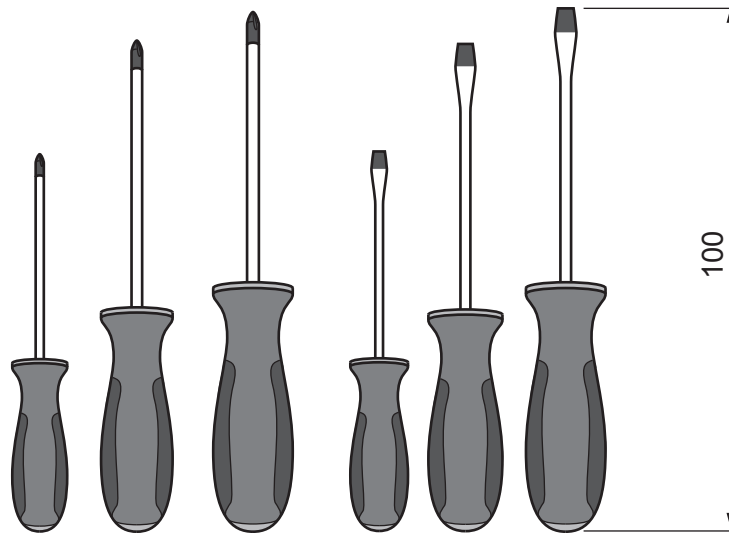

Fig. 11.4
- (d) Fig. 11.4 shows details of a set of screwdrivers that will be stored on the inside of one of the hinged sides of the toolbox.